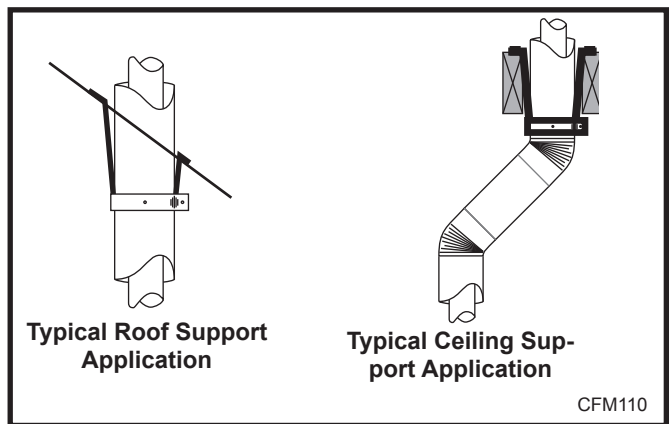

Fig. 53 Roof and ceiling supports.
- 7DVCS must be used to support offsets. (Fig. 53) This application will require that you first determine the roof pitch and use the appropriate starter kit. (Refer to Venting Components List)
7. Install roof support (Fig. 53) and roof flashing making sure upper flange of flashing is below the shingles. (Fig. 53)
8. Install appropriate pipe sections until the venting is above the flashing. (Fig. 53)